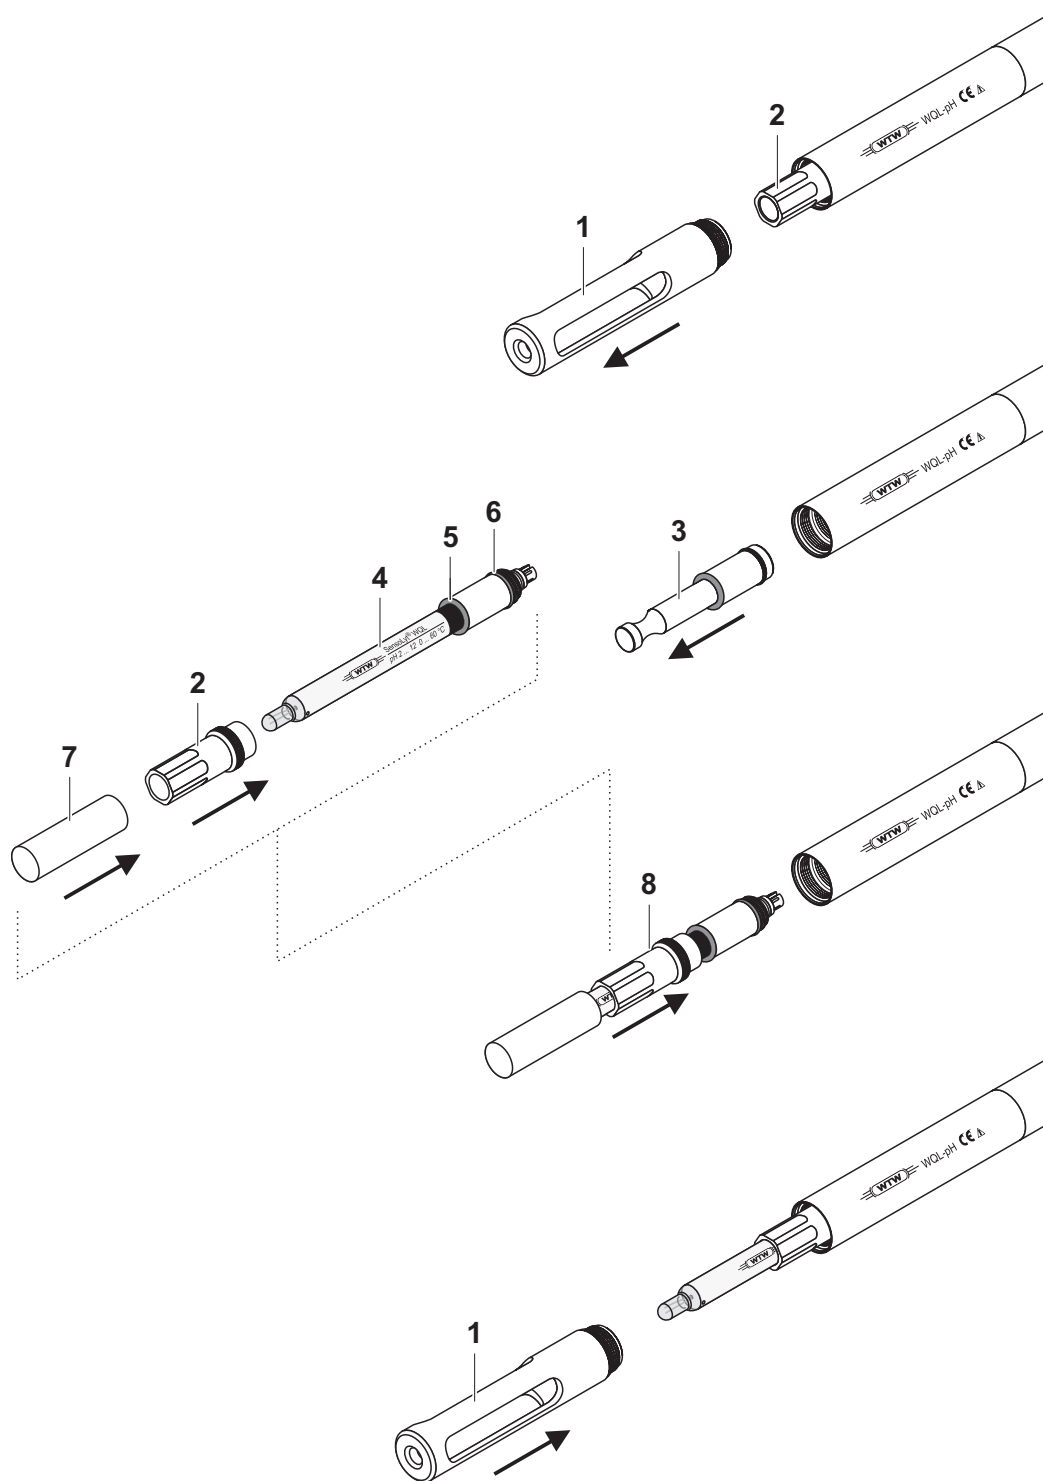

Fig. 3-2 Installing the electrode
1	Unscrew the protective hood (pos. 1 in Fig. 3-2).
8	Screw on the protective hood (pos. 1 in Fig. 3-2).